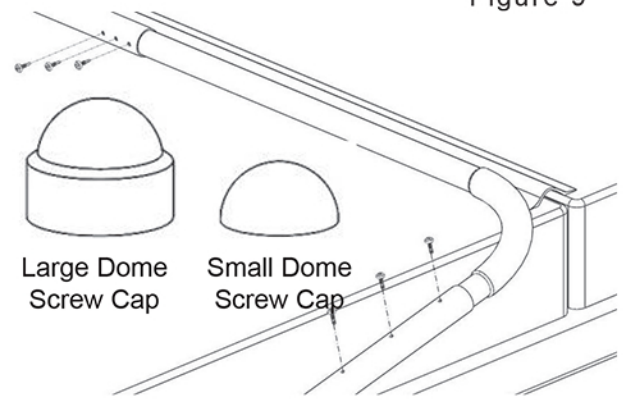

Figure 9
**10** Press the decorative **Large Black Dome Caps (L)** over the heads of the **3/8" x 3" Hex Cap Bolts**. Then press the decorative **Small Black Dome Caps (M)** over the heads of all exposed **#10 screws (J and K)**. You may need a small amount of glue/epoxy depending on the climate. See *Figure 9*.